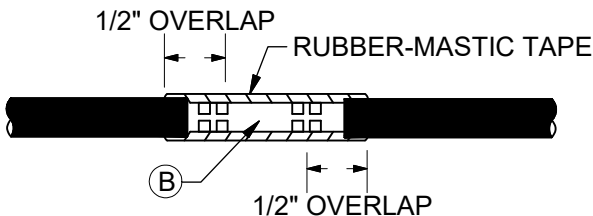

Figure 4
5. Overwrap the installed connector with the rubber mastic tape provided. Apply the tape with the mastic side in towards the connector. Use the tape to build up the thickness to the level of the cable insulation then overlap the tape 1/2" onto the insulation. **DO NOT** apply an excess amount of the rubber mastic tape. See Figure 4. The rubber mastic tape should be stretched during installation, so that its width is reduced to approximately 1-1/2" or less.